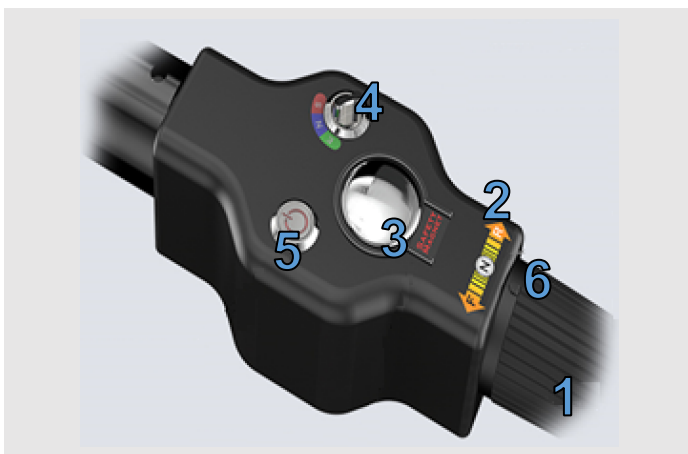

Figure 3: Tiller Control
- Switch the outboard on, using the on/off switch (**Figure 3**, button 5) the button will then be illuminated green, this starts the pump, then immediately begin filling with coolant.